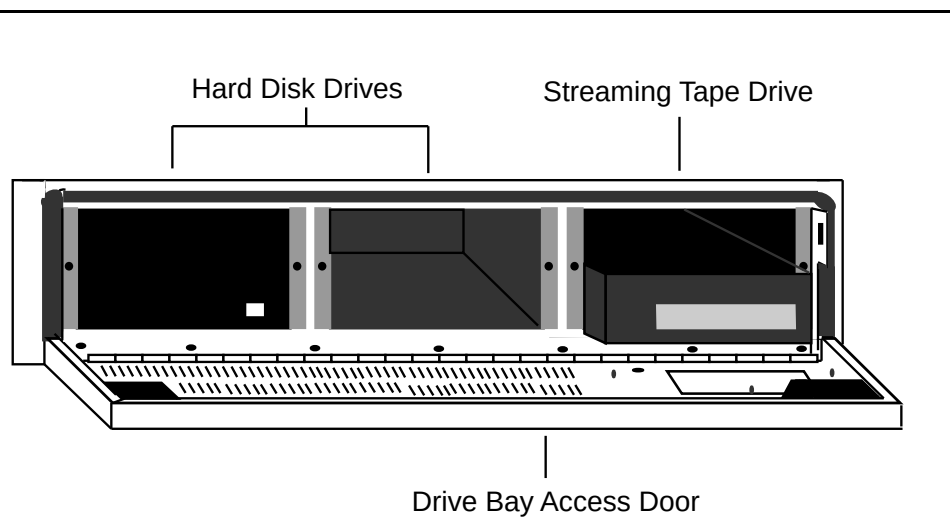

Figure B-8. Peripheral Drive Bay
2. Open the front of the peripheral drive bay access door by using the slide latches located on the left and right corners of the door. Pull the door so that it falls forward (Figure B-8).
This procedure is similar to the procedure for removing the hard disk drive. Refer to Figure B-8 for additional information.